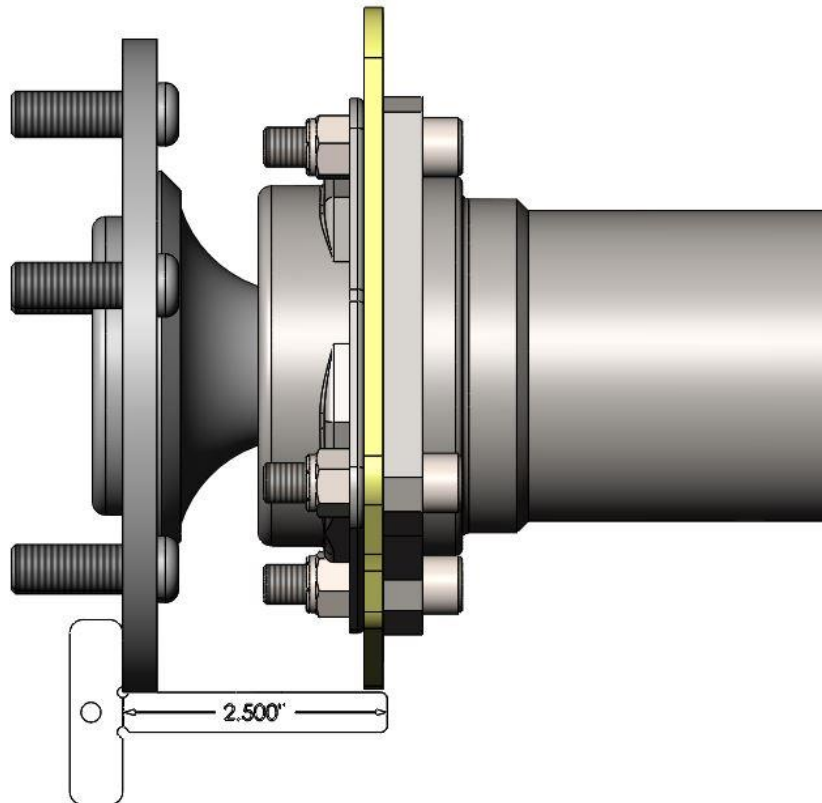

Figure 3 – Measuring Axle Standoff (2.500" Standoff Shown)
6. The standoff of the rear axle must be determined next. This is achieved by taking the supplied depth gauge and holding it flat on the face of the axle flange. If the end of the depth gauge is flush with the back side of the previously installed Caliper Bracket Mounting Flange, your standoff is 2.500". If the end of the depth gauge is sticking past the end of the previously installed Caliper Bracket Mounting flange by .125" approximately, your axle standoff is 2.375". Refer to Figure 3 below for reference on how to measure your standoff.